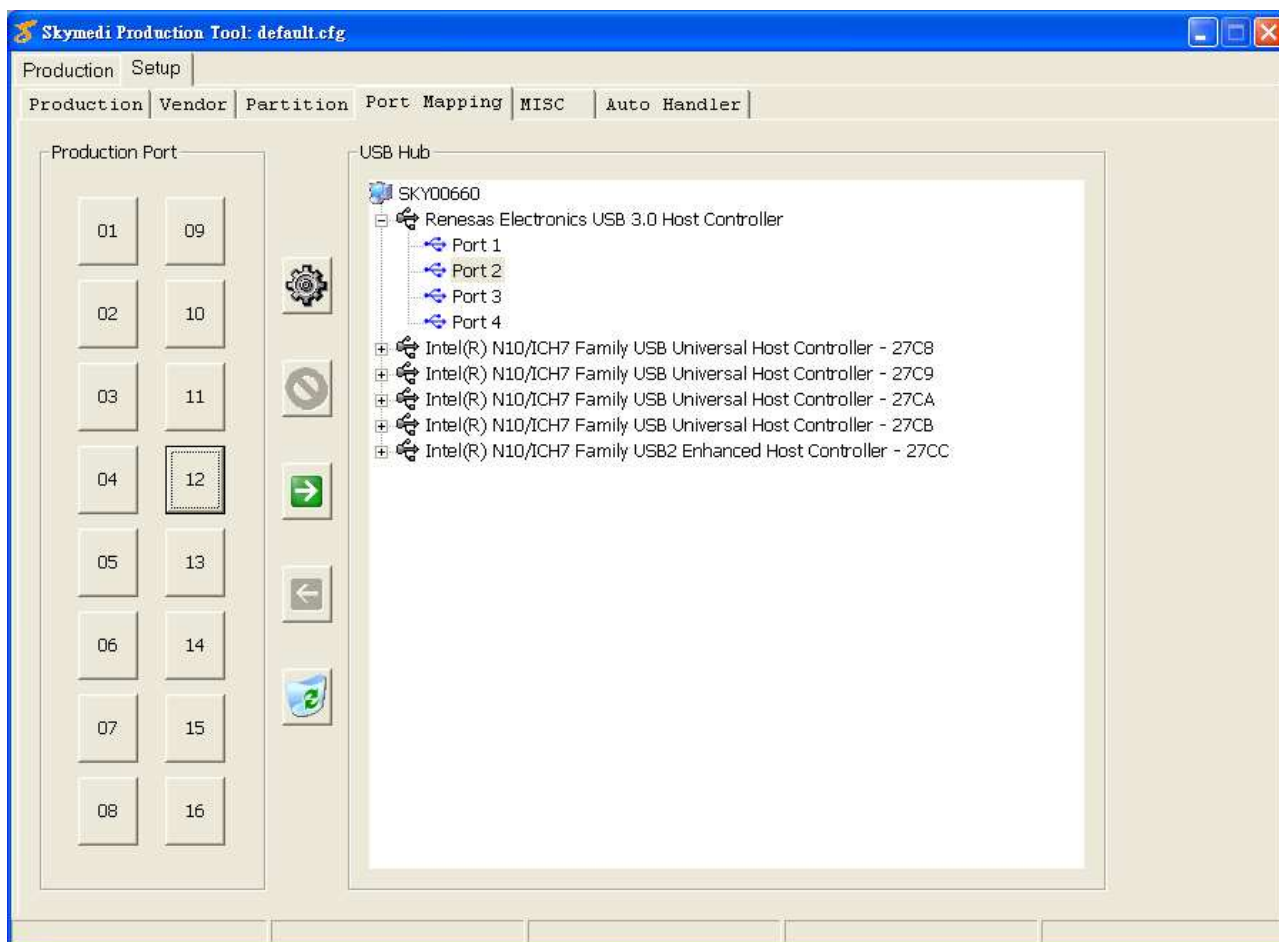

Figure-44 : Manual Port Mapping-2
2. Select the mapped logical port (port1 ~ port16) as Figure-44